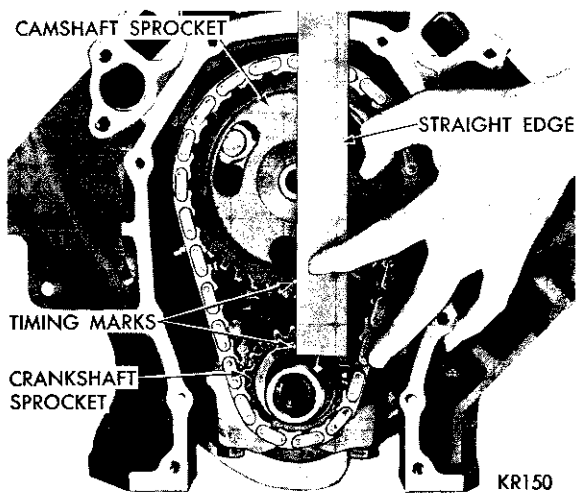

Fig. 21—Inspecting Alignment of Timing Marks Using a Straight Edge
- (4) Lift the sprockets and chain (keep sprockets tight against the chain in position as described).
- (5) Slide both sprockets evenly over their respective shafts.
- (6) Use a straight edge to measure alignment of the timing marks (Fig. 21).
- (7) Install the washer and camshaft sprocket bolt and tighten to 35 foot-pounds torque.